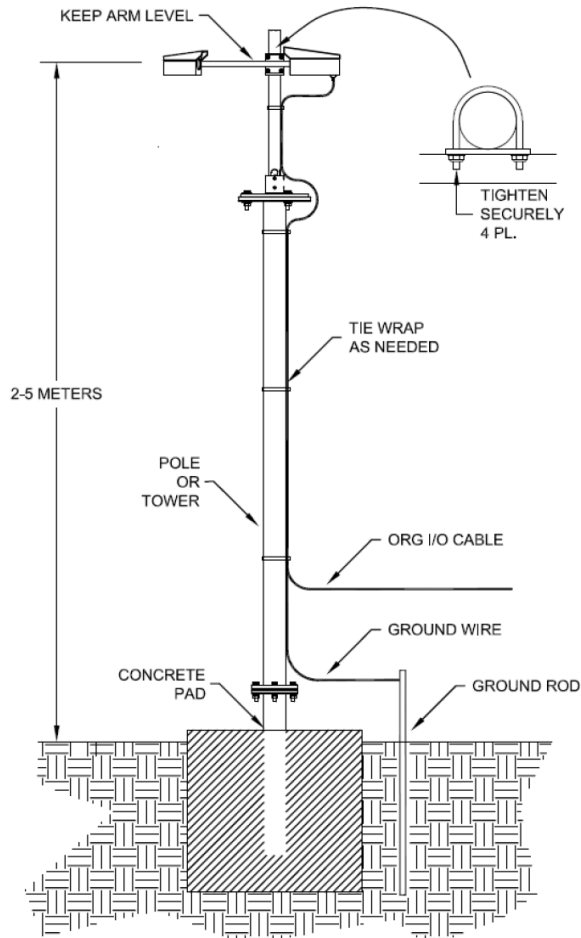

Figure 2.3 Typical ORG Installation
9. A typical installation is shown in Figure 2.3.